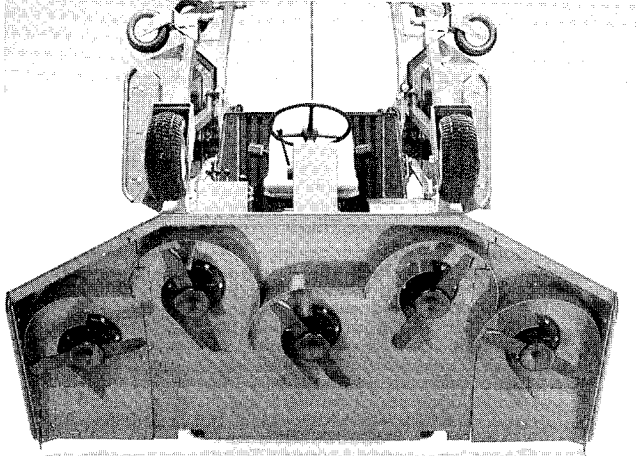

Figure 57
Note: Although not needed for normal maintenance procedures, the front cutting unit can be pivoted (tilted) to a fully upright position (Fig. 57). Should you desire to tilt the cutting unit, proceed as follows:
6. Use at least one other person to tilt the cutting unit. Grasp the front of the unit and lift it to an upright position (Fig. 57).